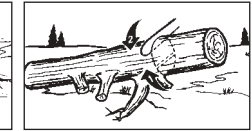

Fig. 12A
- Log supported along entire length: Cut from top (overbuck), being careful to avoid cutting into the ground (Fig. 12A).